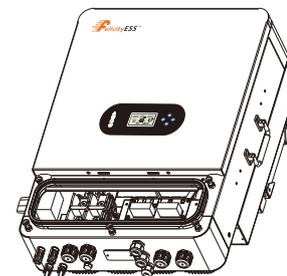

Figure 4.6-1 DRMS interface
Step 1: Screw this cover off from the inverter. See Figure 4.6-1.